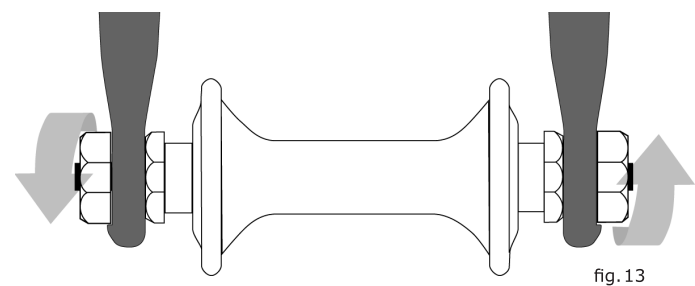

fig. 13
3. Hex nuts or hex key bolts which are threaded on to or into the hub axle (bolt-on wheel), [fig. 13].